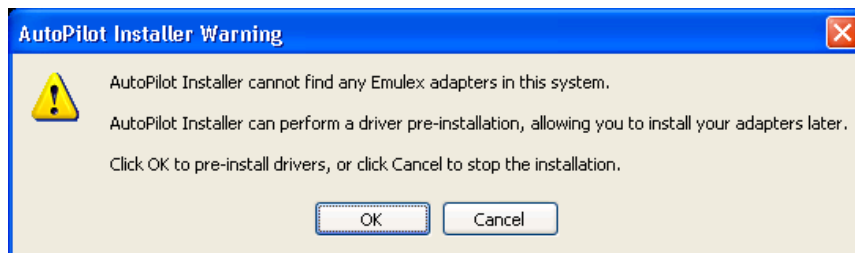

Figure 2-1 AutoPilot Installer Warning (Software-First Installation)
1. Run AutoPilot Installer using one of the two options listed in “Running a Software Installation Interactively” on page 22. The warning in Figure 2-1 appears: